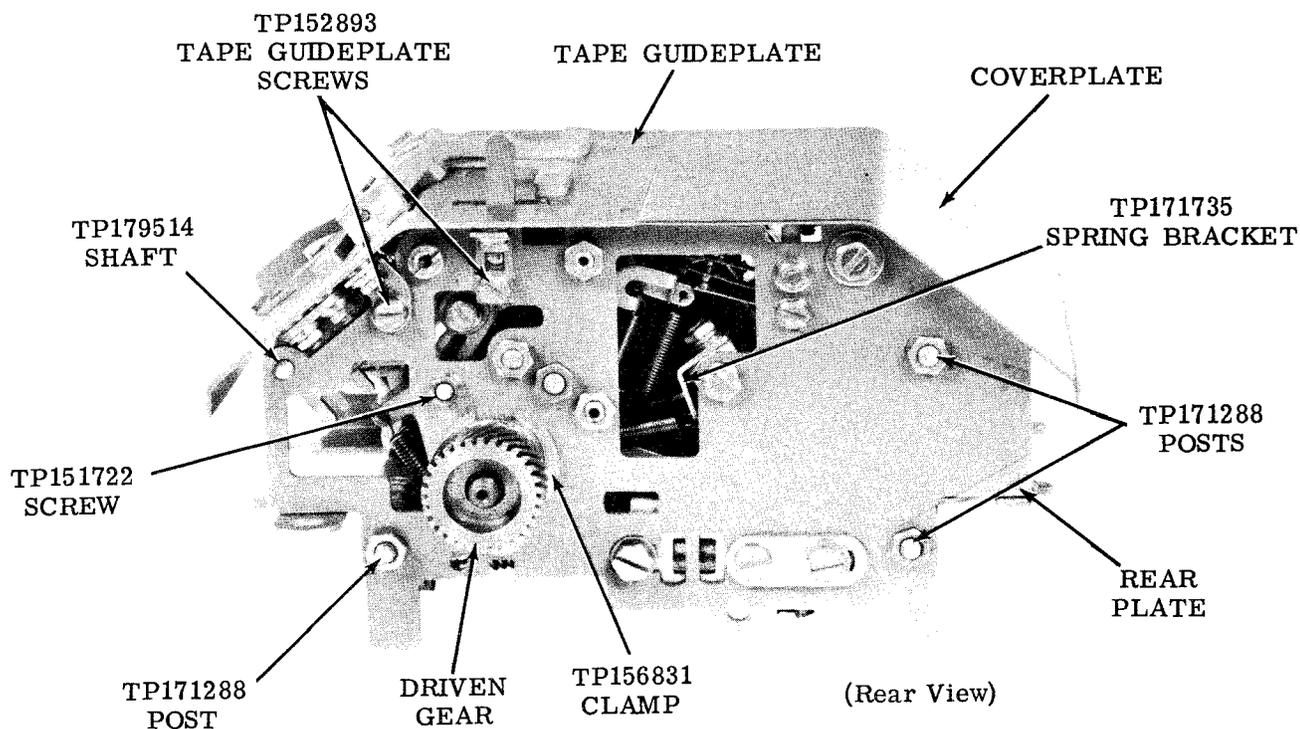
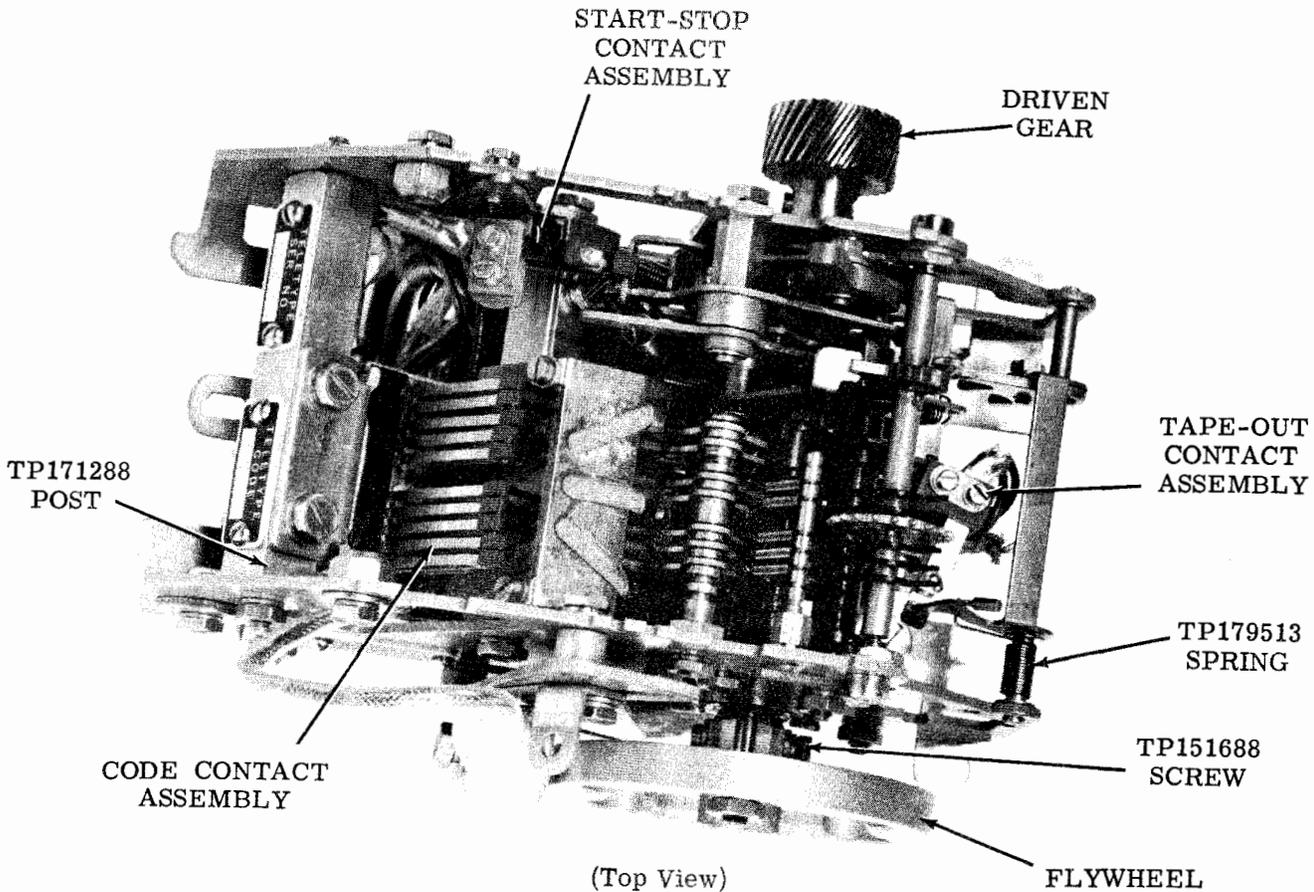

Figure 2 - Tape Reader Unit
Figure 4 - Tape Reader Unit (Plates Removed)
2.01 The driven gear (Figure 2) or driven sprocket is removed from the TP171731 main shaft as follows:
(4) Remove the flywheel if so equipped.
(5) Remove the TP156501 screw, TP2191 lockwasher, and the TP156831 clamp from the front plate.
(6) Remove the TP151722 screw, the TP2191 lockwasher, and the TP156588 clamp from the rear plate (Figure 2).
(7) Guide the main shaft outward, toward the TP174125 rear plate, so that the TP130499 bearing is approximately one inch from the rear plate.
(8) If necessary, use a TP84020 bearing puller and remove the TP130499 rear bearing.
- (1) Unhook four springs from the TP171735 spring bracket (Figure 2).
- (2) Remove the three TP3598 nuts and TP2191 lockwashers that secure the rear plate to the three TP171288 posts (Figure 2).
(3) Remove the TP151722 screw, TP2191 lockwasher, and TP156588 retaining ring from the TP171732 rear plate (Figure 2).
(4) Remove the TP156740 screw and TP2191 lockwasher that secure the rear plate to the TP171707 post.
(5) On units so equipped, remove the TP119649 retaining ring from the TP179514 shaft (Figure 2).
(6) Unhook the TP171313 spring from the TP171898 bracket to release the magnet and rear plate assembly from the reader.
(7) Check that the stop lever is not engaged with the TP171252 feed pawl.
(8) On units so equipped, unhook the TP179513 torsion spring from the rear plate (Figure 4).
(9) Remove the rear plate assembly from the reader. If it is necessary to remove it completely, remove the operating magnet
- (1) Remove the two TP156740 screws, two TP2191 lockwashers, and two TP7002 flat washers that secure the code contact assembly to the TP171288 post. See Figure 4.
- (2) It is now possible to move the code contact assembly about two inches outside of the reader.
- (3) Unsolder and disconnect the cable assembly leads from the code contact assembly terminals.
- (1) Unsolder and remove the cable assembly from the tape-out contact assembly (Figure 4).
- (2) Remove the two TP152893 screws, two TP3640 lockwashers, and two TP125011 flat washers from the TP171256 assembly mounting bracket.
- (1) Unsolder and disconnect the leads from the TP171237 start-stop contact assembly (Figure 4).
- (2) Remove the two TP152893 screws, two TP3640 lockwashers, and two TP125011 flat washers that secure the bracket to the rear plate.
- (3) Remove the TP171237 start-stop contact assembly from the reader.